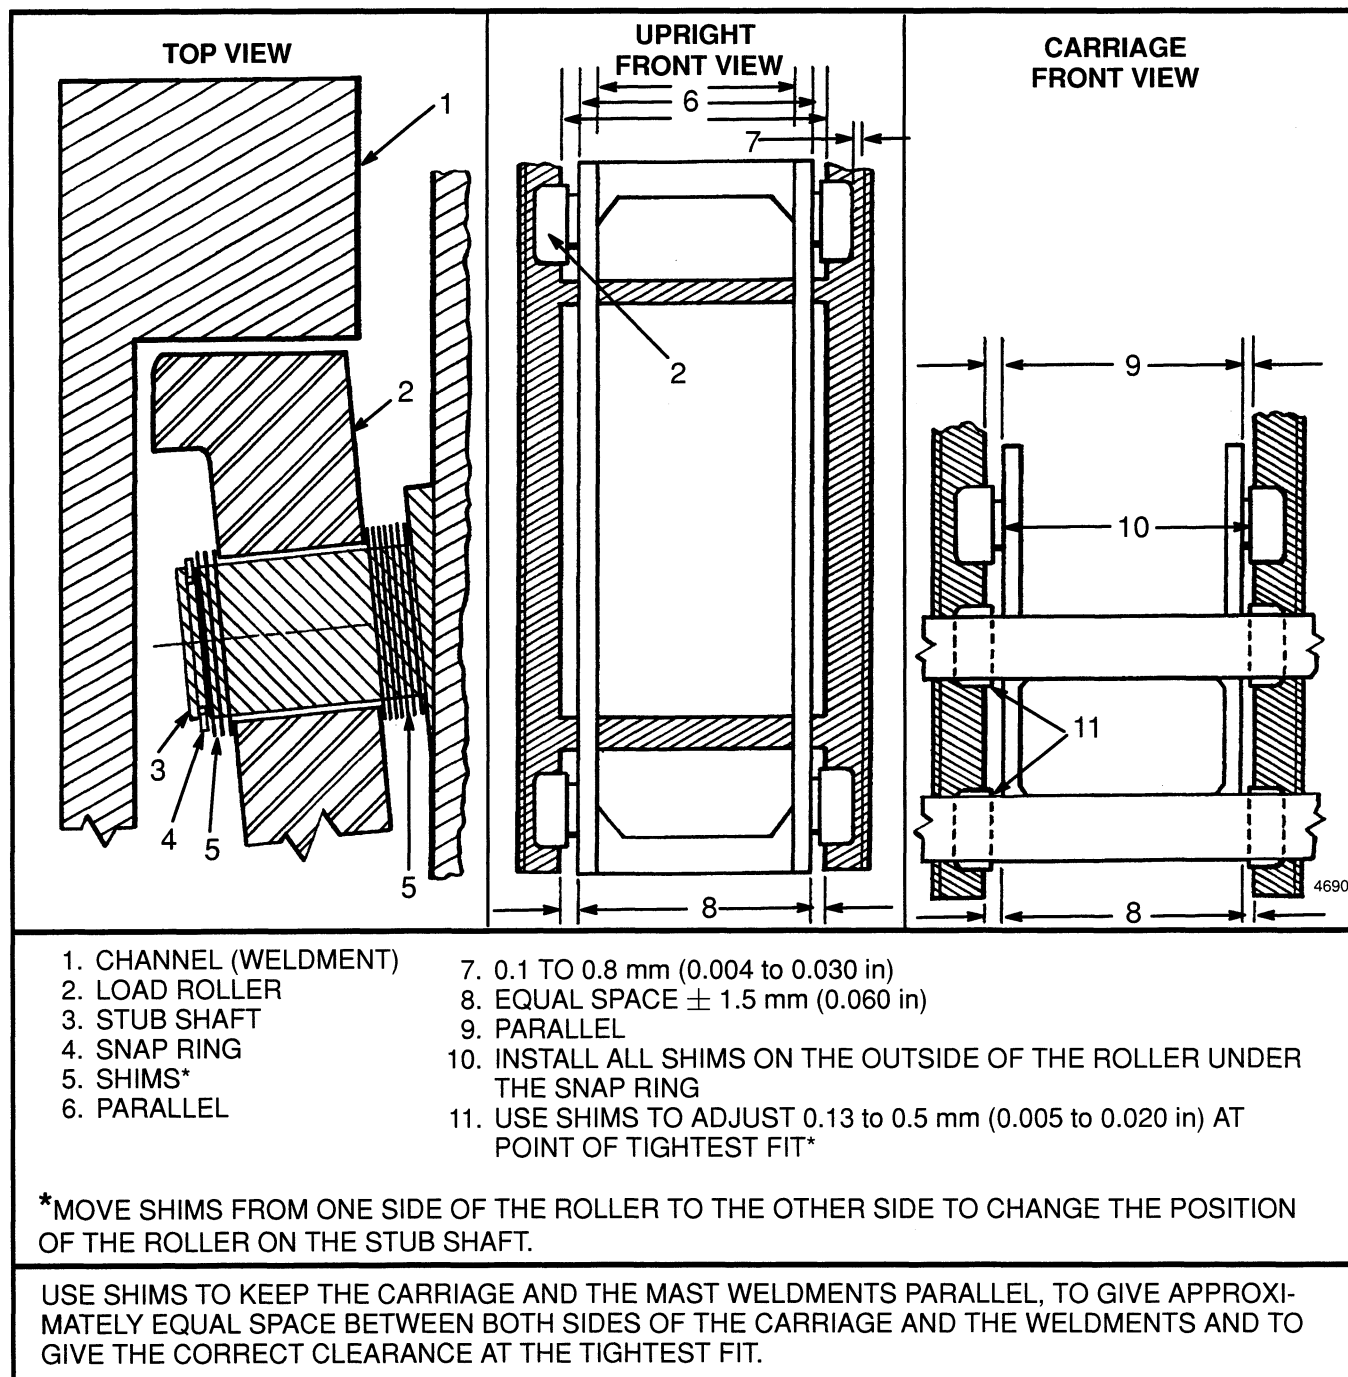

FIGURE 19. MAST AND CARRIAGE ADJUSTMENTS
1. The load rollers control the alignment of the mast weldments. The alignment conditions are given on a list below with the most important condition first. See FIGURE 19.
CARRIAGE ADJUSTMENT (See FIGURE 19.)